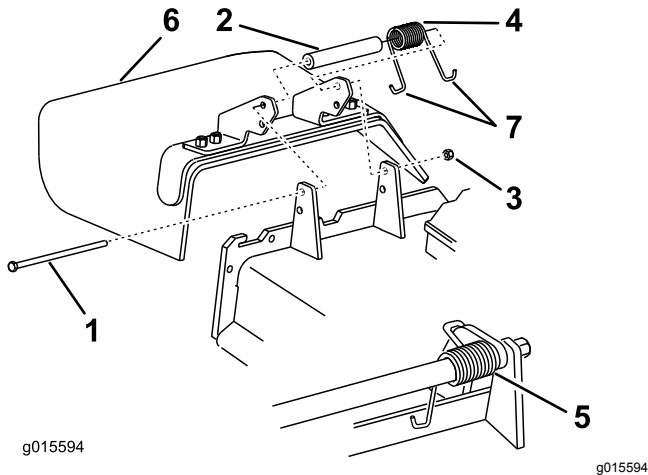

Figure 103
1. Remove the locknut, the bolt, the spring, and the spacer holding the deflector to the pivot brackets (Figure 103).
2. Remove the damaged or worn grass deflector (Figure 103).
Note: Make sure that the J-end of the spring is installed behind the deck edge before installing the bolt as shown in Figure 103.
6. Place the J-hook end of the spring around the grass deflector (Figure 103).